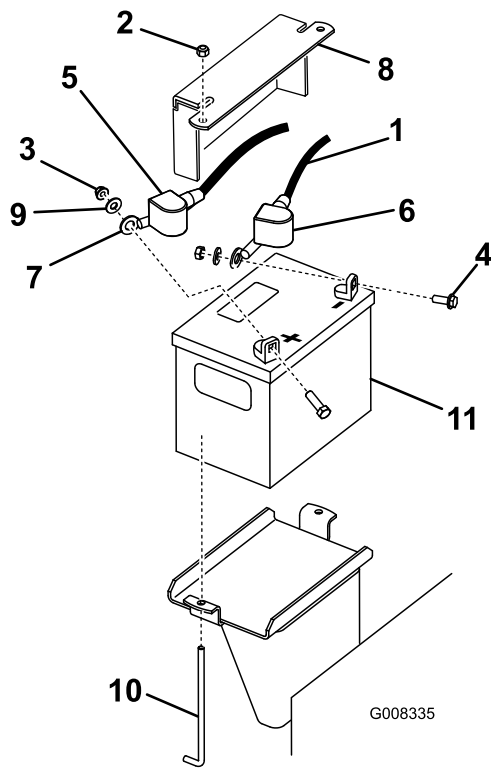

Figure 41
3. Lift the black rubber cover on the negative cable. Disconnect the negative battery cable from the negative (-) battery terminal (Figure 41).
- Slide the red terminal boot off the positive (red) battery terminal. Then remove the positive (red) battery cable (Figure 41).
- Remove the hold down plate, j-bolts, and locknuts securing the battery (Figure 41) and remove the battery.
- Place the battery onto the machine (Figure 41).
- First, install the positive (red) battery cable to positive (+) battery terminal with a nut, washer and bolt (Figure 41). Slide the rubber cover over the post.
- Then install the negative battery cable and ground wire to the negative (-) battery terminal with a nut, washer and bolt (Figure 41). Slide the rubber cover over the post.